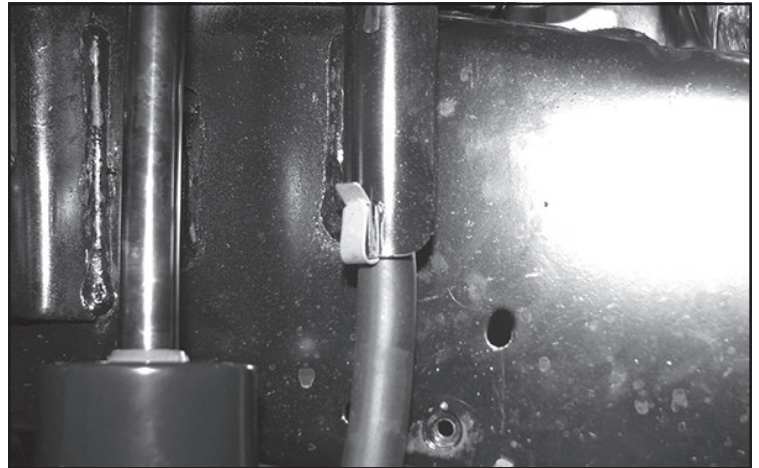

FIGURE 23 - STEP 22
22. Reinstall the diff breather hose by moving the metal clip up the hose 2" **SEE FIGURE 23** and the christmas tree fastener into the next hole down. **SEE FIGURE 24.**